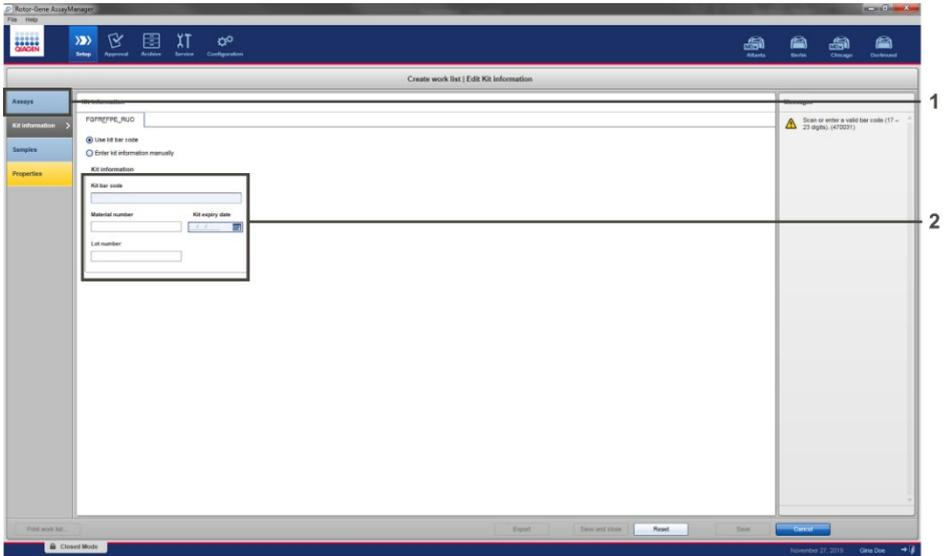

Figure 9. Create work list main window. 1 = “Kit information” tab, 2 = Enter the kit information.
5. Click the Kit information tab. Select **Enter kit information manually** and enter the following kit information (Figure 9):